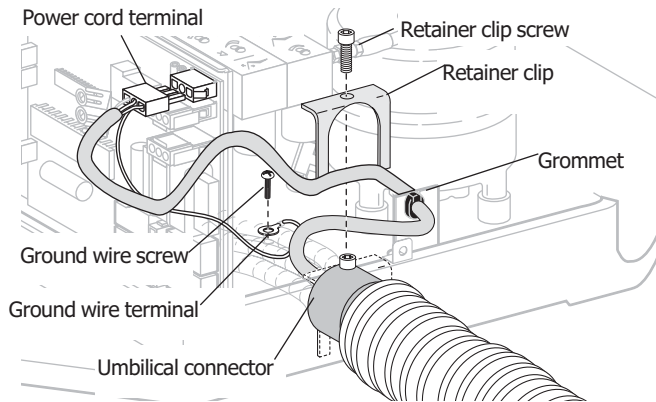

Figure 8
- Insert the umbilical into the chair baseplate. Install the retainer clip over the chair connector and secure with the screw provided from the umbilical kit (see Figure 8).
- Plug the power cord terminal into the circuit board and secure the ground wire to the motor housing (see Figure 8).